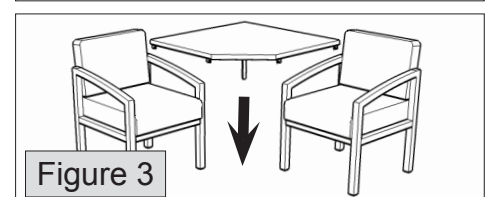

Figure 3
8. Press down on tabletop until arm bolts are fully inserted into the bracket slots, as shown in figure 3. Tighten all bolts securely, including bracket bolts from step 4 and arm bolts from step 6.
8. Insert bolts about halfway into bolt inserts in facing arms, as shown in figure 3 closeup.
9. Set tabletop between chairs, also as shown in figure 3. The slotted brackets slide onto the bolts from step 8.